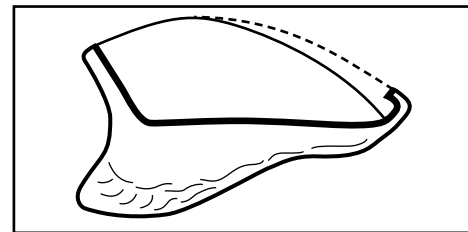

Figure 1
- Moisten a brush with the liquid. Pick up a bead of body shade powder and deposit it on the opaqued casting. Do not use excess liquid or wait between applications. Repeat this operation until the proper contour of the body portion has been obtained. (See Fig. 1)